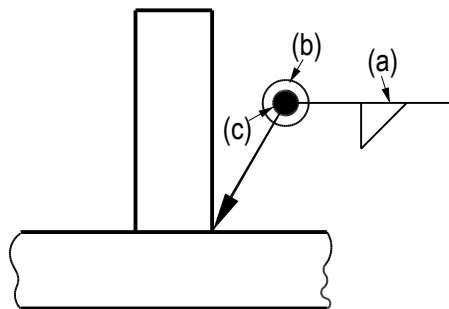

FIGURE 1
1.4 FIGURE 1 shows a joint with welding symbols.
1.4.2 Write down what the THREE elements of the welding symbol represents in FIGURE 1.